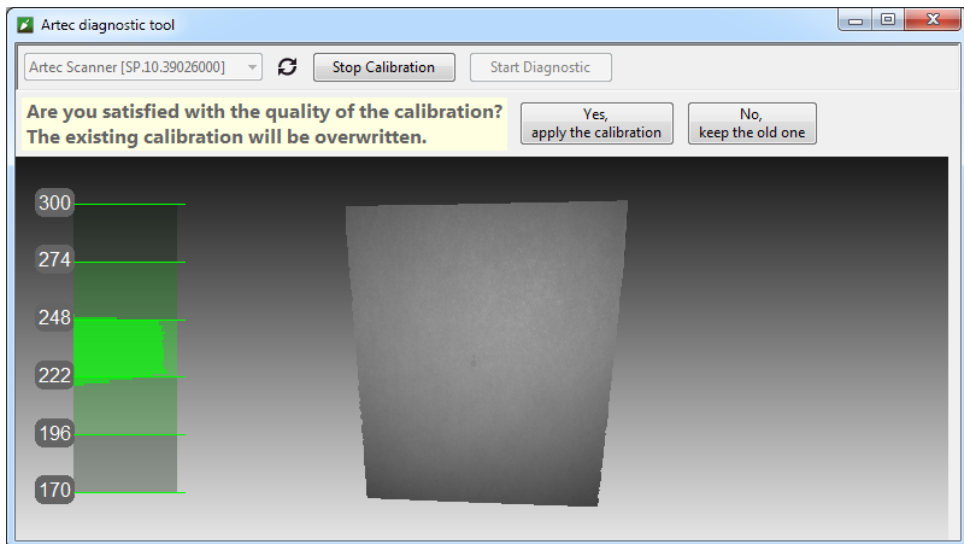

Figure 8.10: Assessing calibration results
11. Click *Yes, apply the calibration* if no holes appear on the surface, and you are satisfied with the reconstruction results. To reject new calibration, click *No, keep the old one* (figure 8.10).